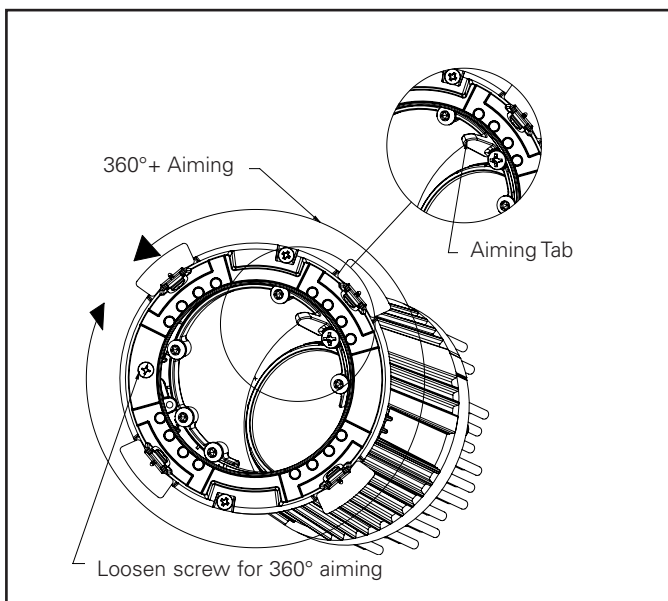

Figure 10.
1. Loosen Phillips head screw as shown (Figure 10).
2. Using the aiming tab (Figure 10), rotate to the appropriate position. Tighten the Phillips head screw to lock aiming position.